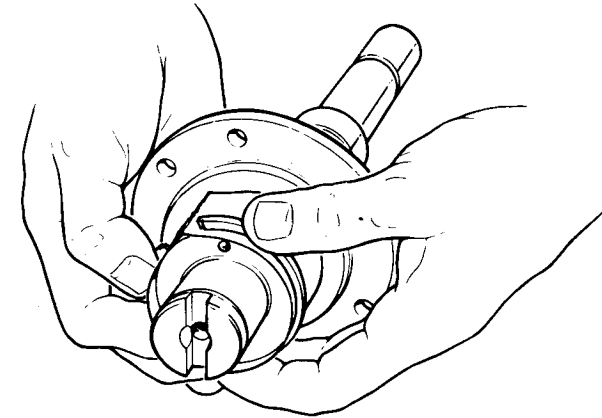

Fig. 13. piston ring fitting procedure.
5. Where a loading tool is not available use a thin metal strip, long enough to lay along the shaft above the grooves. Expand each ring just sufficiently to allow it to be placed in its approximate position over the strip. Gently withdraw the strip and locate the rings in their respective grooves. (see fig. 13).